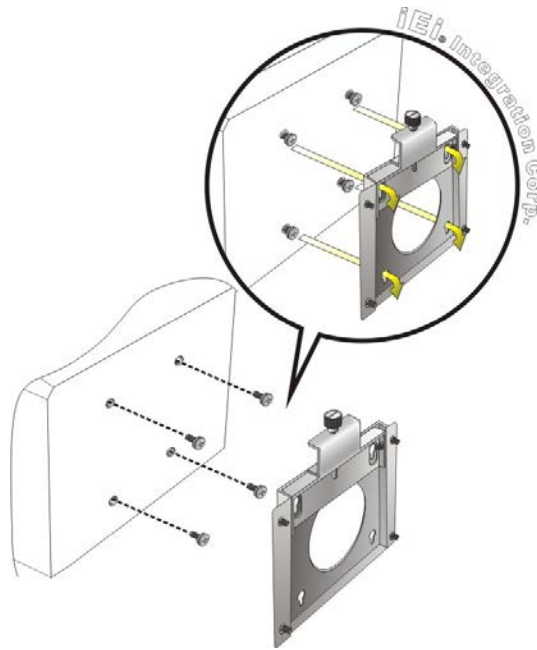

Figure 3-40: Hook Onto Wall Mounting Kit
- Step 2:** Screw the mounting screws to the mounting holes on the rear of the DM-F series (Figure 3-40).
- Step 3:** Hook the DM-F series into the mounting holes on the wall mounting kit (Figure 3-40).